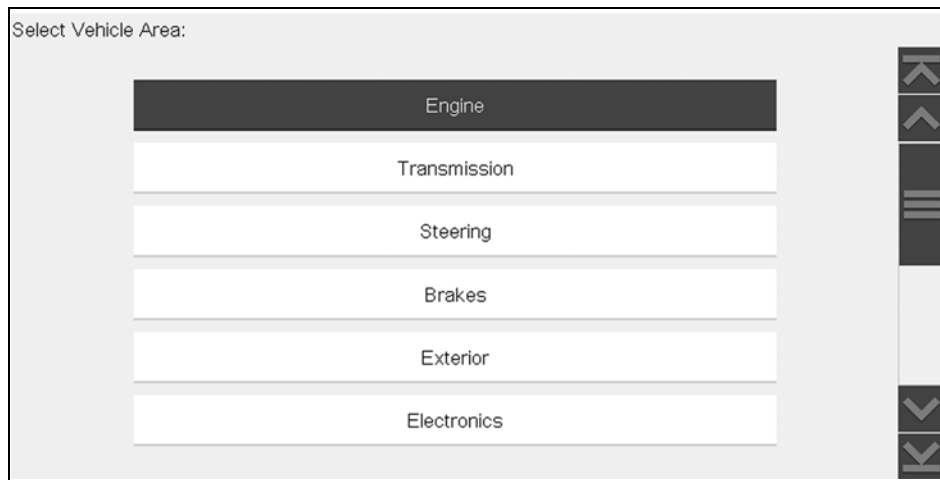

Figure 8-5
2. Select a vehicle area, (e.g. **Engine, Transmission, Brakes**, etc) (Figure 8-5).